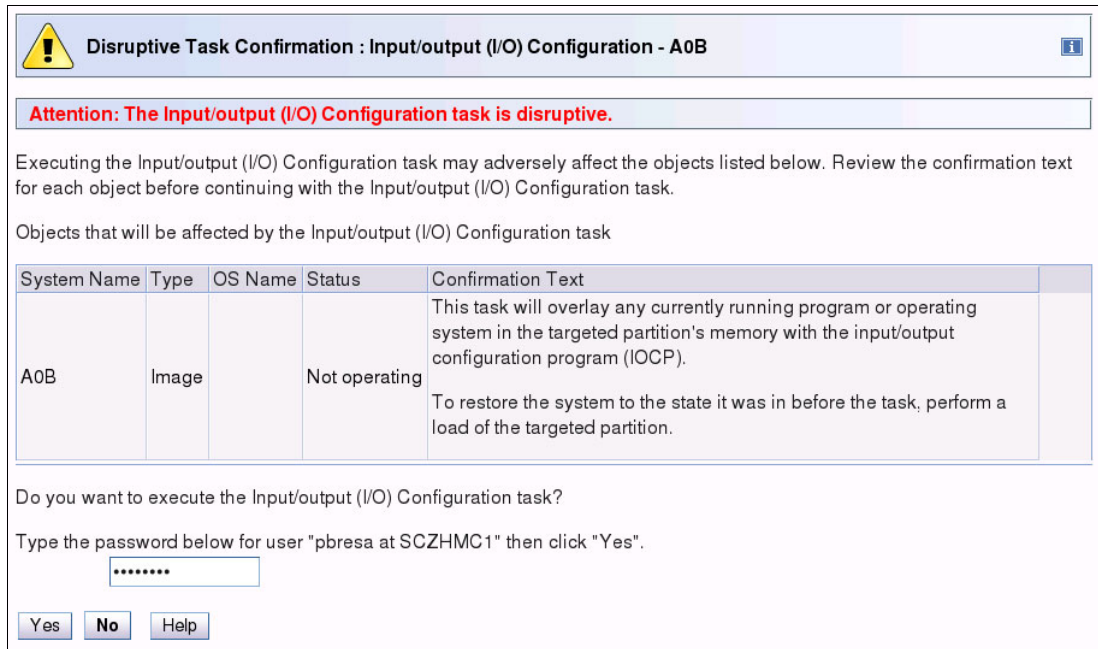

Figure 6-137 HMC - SAIOCP - build warning window
17. Observe the Build warning message, enter your HMC password, and click **Yes** (Figure 6-137 on page 344).